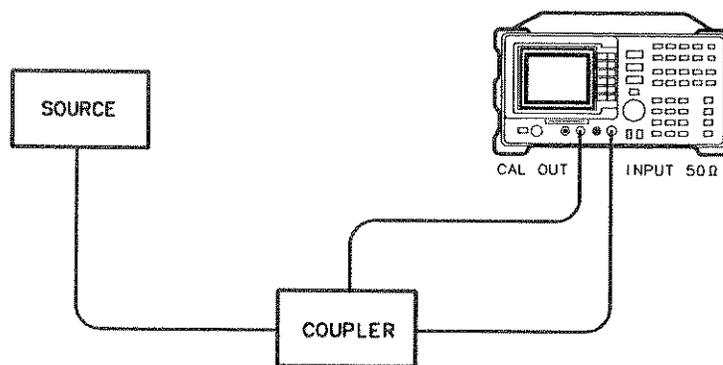

Figure 6-1. Set-Up for Obtaining Two Signals
1. To obtain two signals with a 100 kHz separation, connect the calibration signal and a signal source to the analyzer input as shown in Figure 6-1. (If available, two sources can be used.)